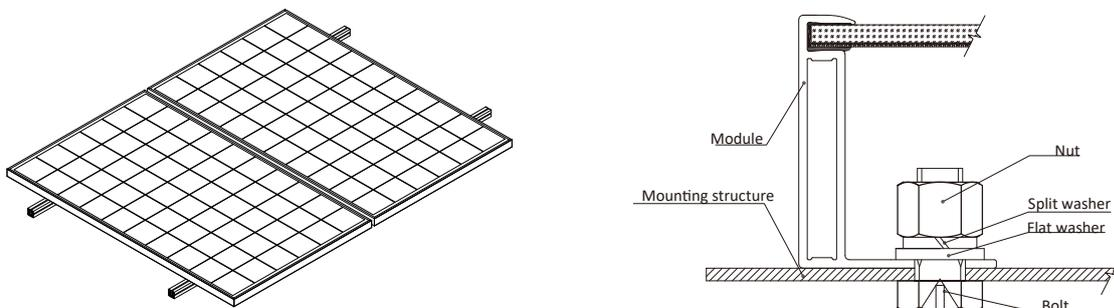

Figure1 Mounting hole installation
1. Mounting hole installation: (see figure1)